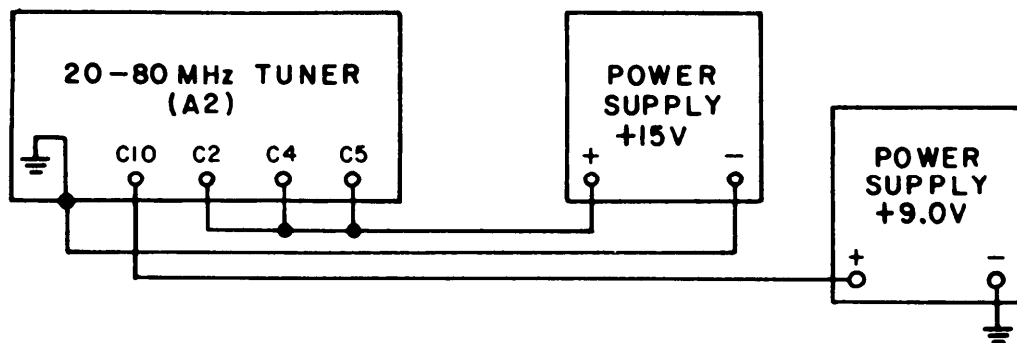

Figure 4-1. Test Setup, 20-80 MHz Tuner, Power Circuit Connection
The following performance checks are designed to aid in troubleshooting and evaluating the operation of the tuner. They can also serve as part of a periodic maintenance check. Before proceeding with the following, connect the tuner as in Figure 4-1.
- (1) Connect the RF VTVM, with 50 Ω load, to the LO output A1J3. The +9V and +15V power supply connections are C27 and C30 respectively. (see Fig. 4-1 as an example).
- (2) The minimum level should be 20 mV rms into 50 Ω .
- (3) Restore normal connections.